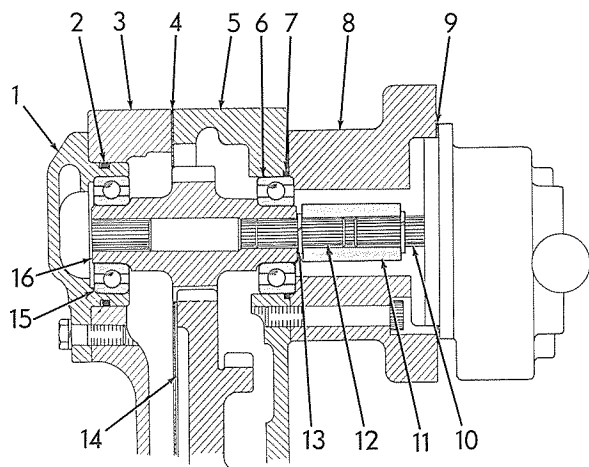

Fig. 13 — Type II Hydraulic Pump Drive
- Using a new O-ring (9) install drive gear assembly on timing gear cover. Connect lubricating oil hose(s). Install hydraulic pump.
H. TYPE II HYDRAULIC PUMP DRIVE REMOVAL, DISASSEMBLY, AND INSPECTION (Fig. 13)
- Remove hydraulic pump and adapter (8) from rear of timing gear housing.
- Remove coupling (11) and coupling (12).
- Remove bearing retainer (1).
- Drive or press gear (16) and bearings (6) and (15) from timing gear housing.
- Drive or press bearings (6) and (15) from gear (16).
I. TYPE II HYDRAULIC PUMP DRIVE ASSEMBLY AND INSTALLATION (Fig. 13)
1. Press bearings (6) and (16) onto gear.
2. Install a new O-ring (2) in groove in bearing retainer (1) and install retainer in position in timing gear housing cover (3). Secure with capscrews and lockwashers.
4. Place a new O-ring (7) in counterbore in housing (5).
5. Install coupling (12) and coupling (11).
6. Install adapter (8) and secure with 12 point nylok capscrews.